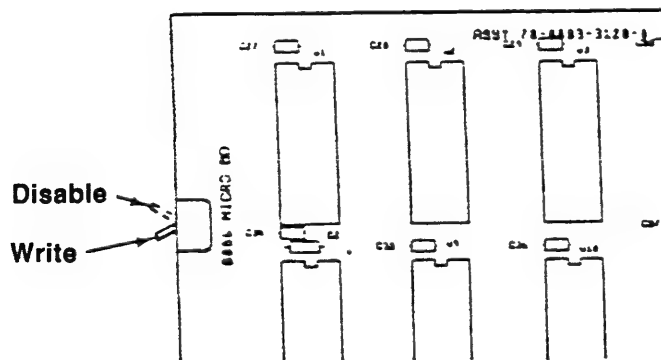

Figure 2-7.3A
1. Press **3597 L 7000 L** on the M-656 Keyboard. The first parameter (000) and the value stored for it (0012, for Mode 12) will be displayed.
- a. Switch the Write/Disable Switch on the Micro PCB to the Write (down) position (Figure 2-7.3A).